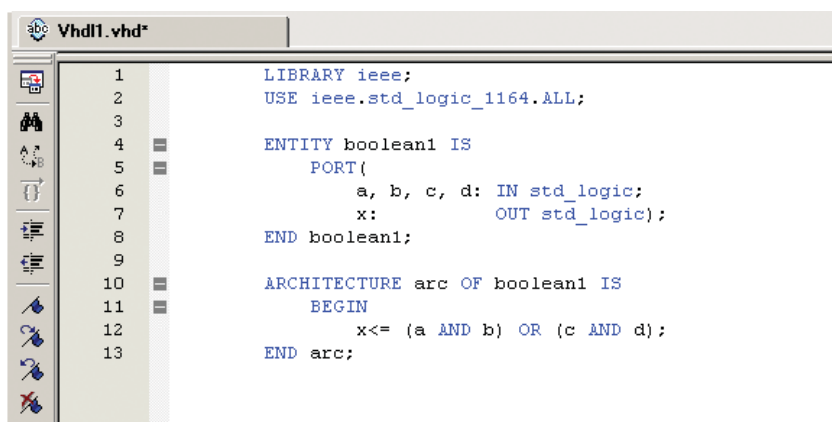

Figure 45 The VHDL program listing.
36. Type in the VHDL program for $X = AB + CD$ as shown in Figure 45.